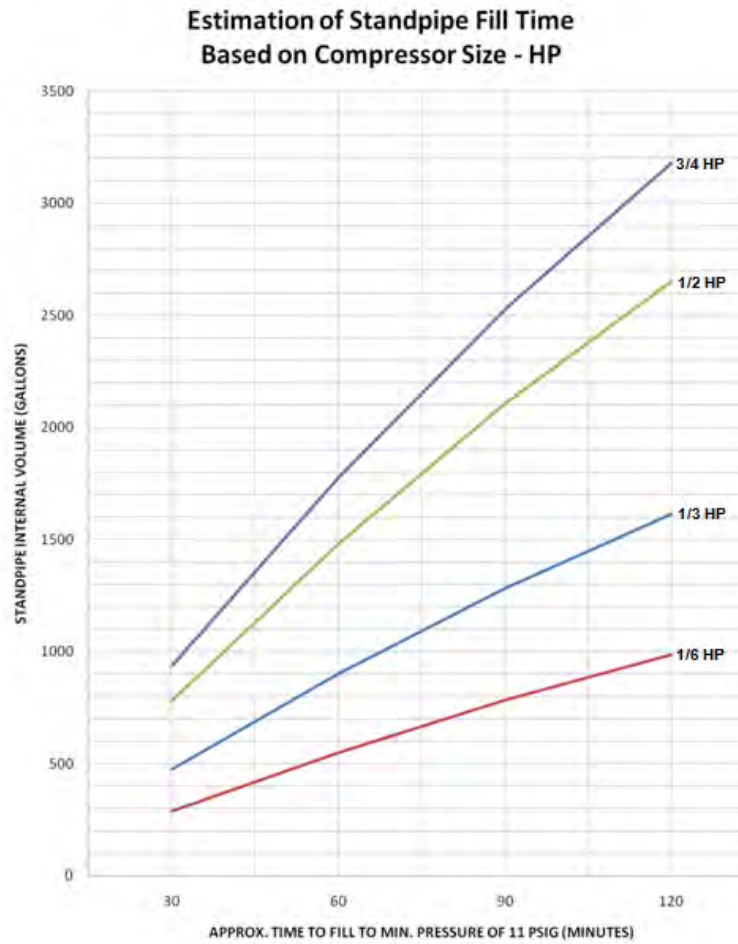

Figure 3 – Estimating Standpipe Fill Time
2.3. Determining Proper STANDPIPE-PAC™ To Use. See Figure 3.